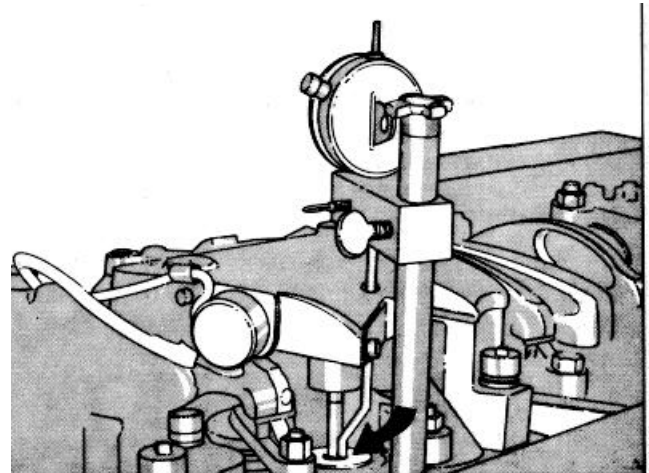

Fig 2-53, (om10611) Dial indicator in place-extension contact with plunger.
2. Install 3375004 Dial Indicator Assembly to the rocker housing, extension (3375005) must go through the opening in the Jacobs Brake housing and contact the injector plunger top, Fig. 2-53.
3. Screw the injector lever adjusting screw down until the plunger is bottomed in the cup, back off approximately 1/2 turn then bottom again, set the dial indicator at zero (0).